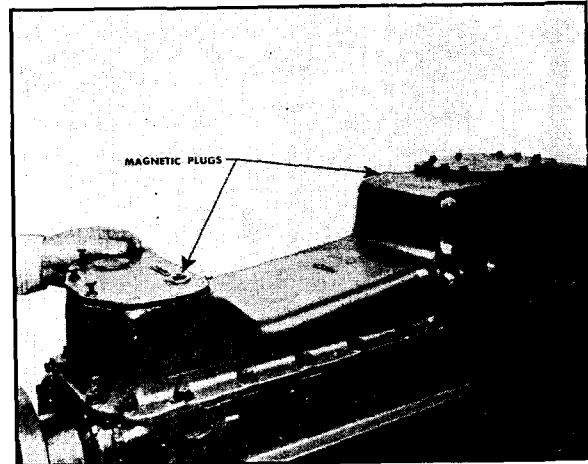

Fig. 12-71. Installing oil pump cover plate
3. Shellac a gasket to the oil pump plate and secure in place. Fig. 12-71.